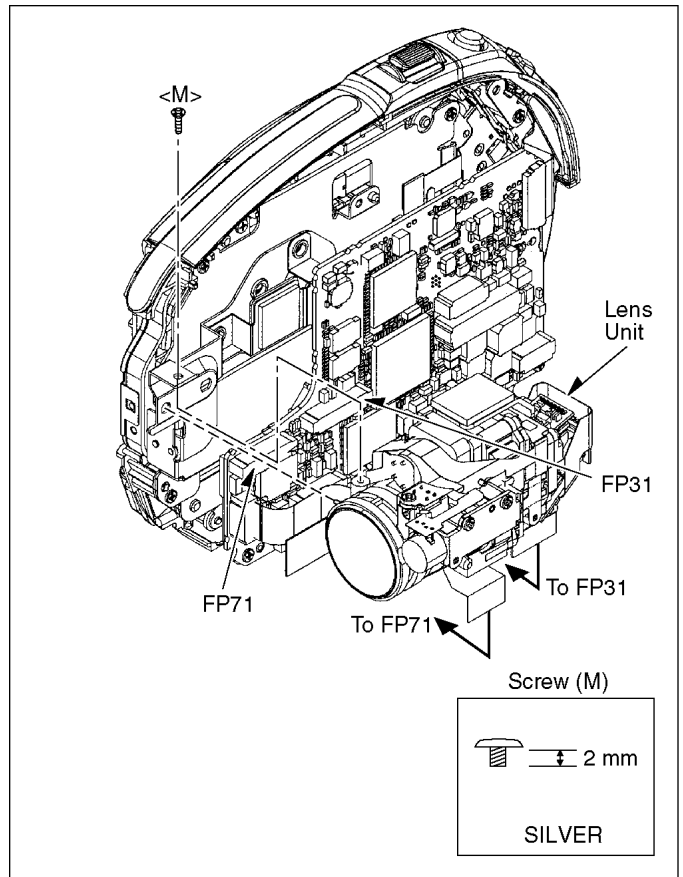

Fig. D8
| 6 | Lens Unit | Fig. D8 | 2-Connectors FP31,FP71 1-Screw (M) Lens Unit |